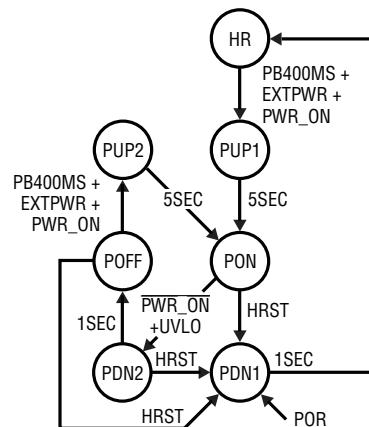

Figure 18. Pushbutton State Diagram
Figure 18 shows the LTC3577 pushbutton state diagram. Upon first application of power ( $V_{BUS}$ , WALL or BAT) an internal power-on reset (POR) signal places the pushbutton circuitry into the power-down (PDN1) state. One second after entering the PDN1 state the pushbutton circuitry will transition into the hard reset (HR) state. The following events cause the state machine to transition out of HR into the power-up (PUP1) state: